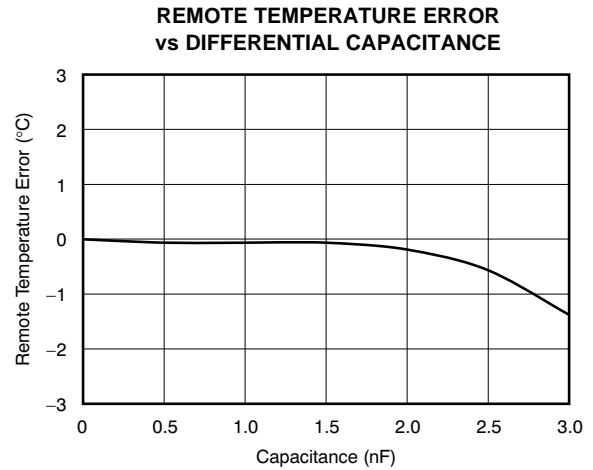

Figure 6.
(3)  $C_{DIFF}$  (optional) should be  $< 1000\text{pF}$  in most applications. Selection of  $C_{DIFF}$  depends on application; see the Filtering section and Figure 6, *Remote Temperature Error vs Differential Capacitance*.
- (1) Diode-connected configuration provides better settling time. Transistor-connected configuration provides better series resistance cancellation.
- (2)  $R_S$  (optional) should be  $< 1.5k\Omega$  in most applications. Selection of  $R_S$  depends on application; see the Filtering section.
- (3)  $C_{DIFF}$  (optional) should be  $< 1000pF$  in most applications. Selection of  $C_{DIFF}$  depends on application; see the Filtering section and Figure 6, Remote Temperature Error vs Differential Capacitance.
- (4) TMP422 SMBus slave address is 1001 100 when connected as shown.
The TMP421/22/23 tolerate differential input capacitance of up to 1000pF with minimal change in temperature error. The effect of capacitance on sensed remote temperature error is illustrated in Figure 6, *Remote Temperature Error vs Differential Capacitance*.